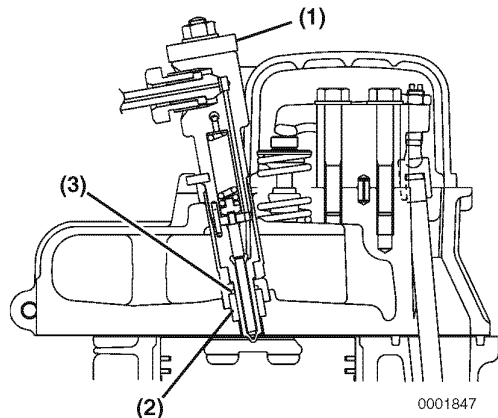

Figure 9-37
1. Install a new nozzle spacer (**Figure 9-37, (3)**) and gasket (**Figure 9-37, (2)**) on the fuel injector.
3. Install the injector retainer plate (**Figure 9-37, (1)**) and tighten the nuts to specification. *See Special Torque Specifications on page 9-5.*